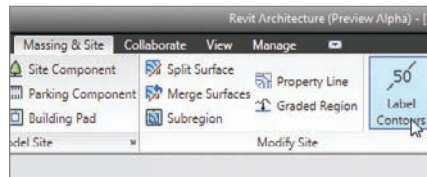

FIGURE 18.18 The Label Contours button
1. On the Massing & Site tab, click the Label Contours button, as shown in Figure 18.18.